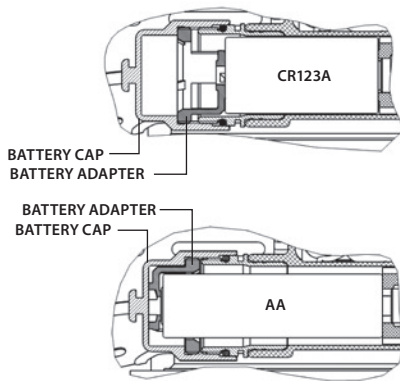

FIGURE 3-2. BATTERY ADAPTER POSITIONS IN THE BATTERY CAP
1. Unscrew the battery cap (A) and check the position of the battery adapter (B). See Figure 3-2 for the correct positioning of the threaded battery adapter, which changes depending on the battery being installed.
3. Install the battery (C) into the battery compartment (D). Follow the battery symbol (E).
4. Replace the battery cap (A).